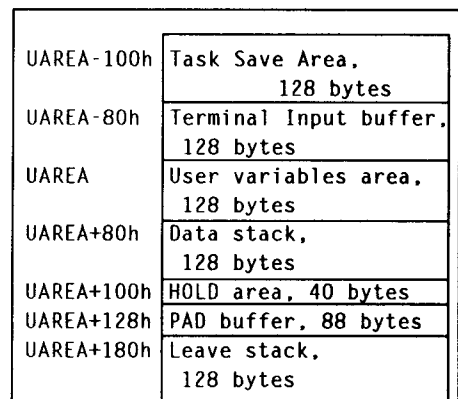

FIGURE 2. CAMELFORTH TASK AREA
In CamelForth, each task's private data is contained within a 768-byte "task area," organized as in Figure 2.
1. Save the "important" registers and the Return stack in external RAM, with the task's private data. This is the purpose of the "Task Save Area" in Figure 2.